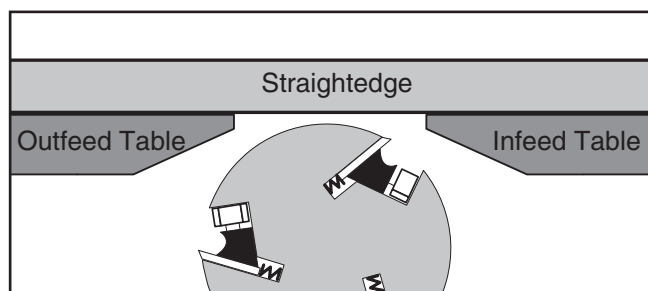

Figure 61. Infeed and outfeed tables set evenly.
2. Place the straightedge halfway across the infeed table and halfway over the outfeed table, and adjust the infeed table even with the outfeed table, as shown in **Figure 61**.